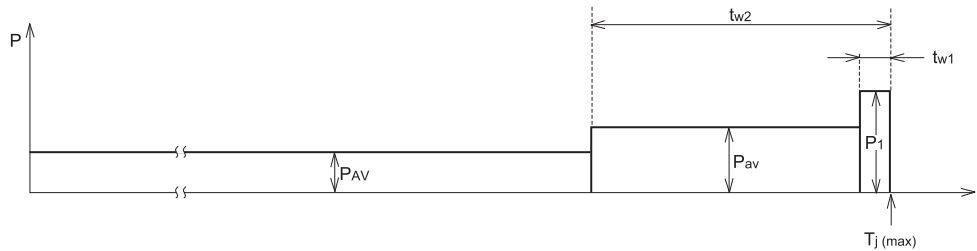

Fig.12.9
Using approximation similar to (1) Fig.12.9 is obtained for calculation.